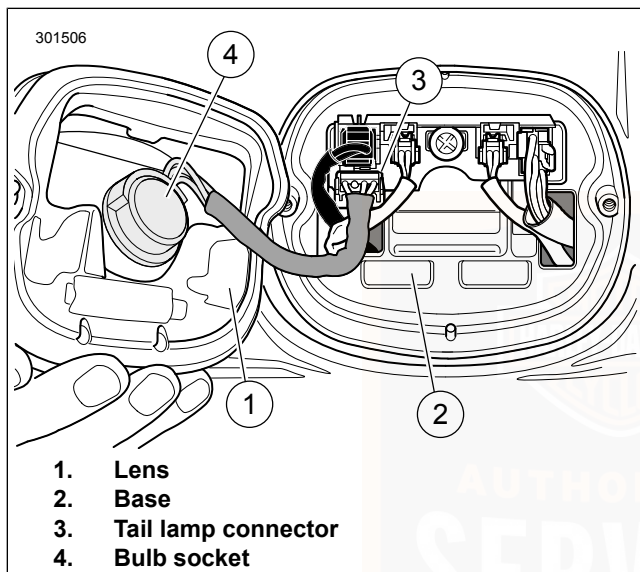

Figure 100. Tail Lamp Assembly
2. See Figure 100. Disconnect tail lamp connector (3).
3. Rotate bulb socket (4) a quarter turn counterclockwise and remove from tail lamp assembly. Remove bulb.
2. See Figure 100. Insert socket (4) into tail lamp assembly. Rotate a quarter turn clockwise.
3. Attach tail lamp connector (3).